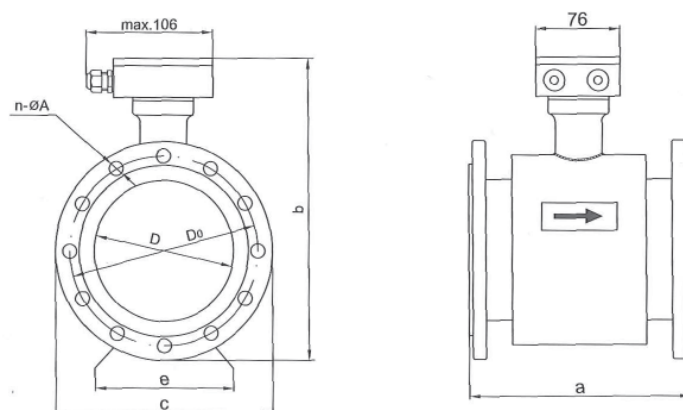

Fig.3
5.2 Dimensions of the remote version (Fig.3 - Tab 2)